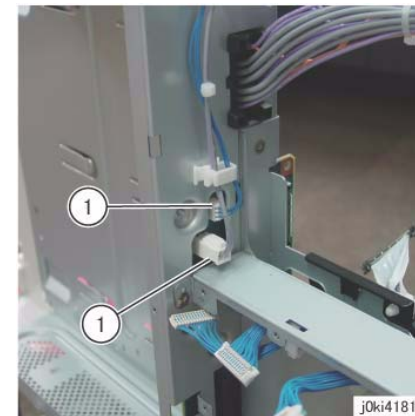

Figure 1 Disconnect the connectors
- Disconnect the connector of the BP PWB. (Figure 1)